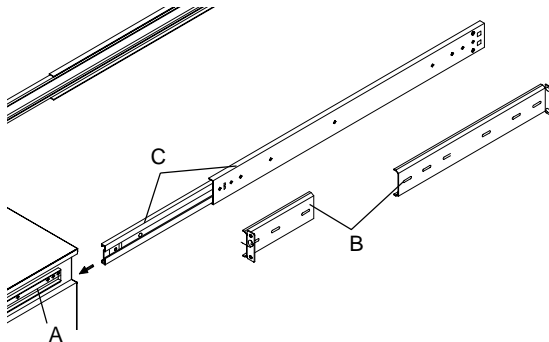

Figure 2-1. Identifying the Sections of the Rack Rails
You should have received two rack rail assemblies with the SuperServer 6040. Each of these assemblies consist of three sections: an inner fixed chassis rail that secures to the 6040 (A), an outer fixed rack rail that secures directly to the rack itself (B), and a sliding rail guide (C) between the two, which should remain attached to the fixed rack rail. (See Figure 2-1, which shows the chassis rail 'A' already attached to the chassis).